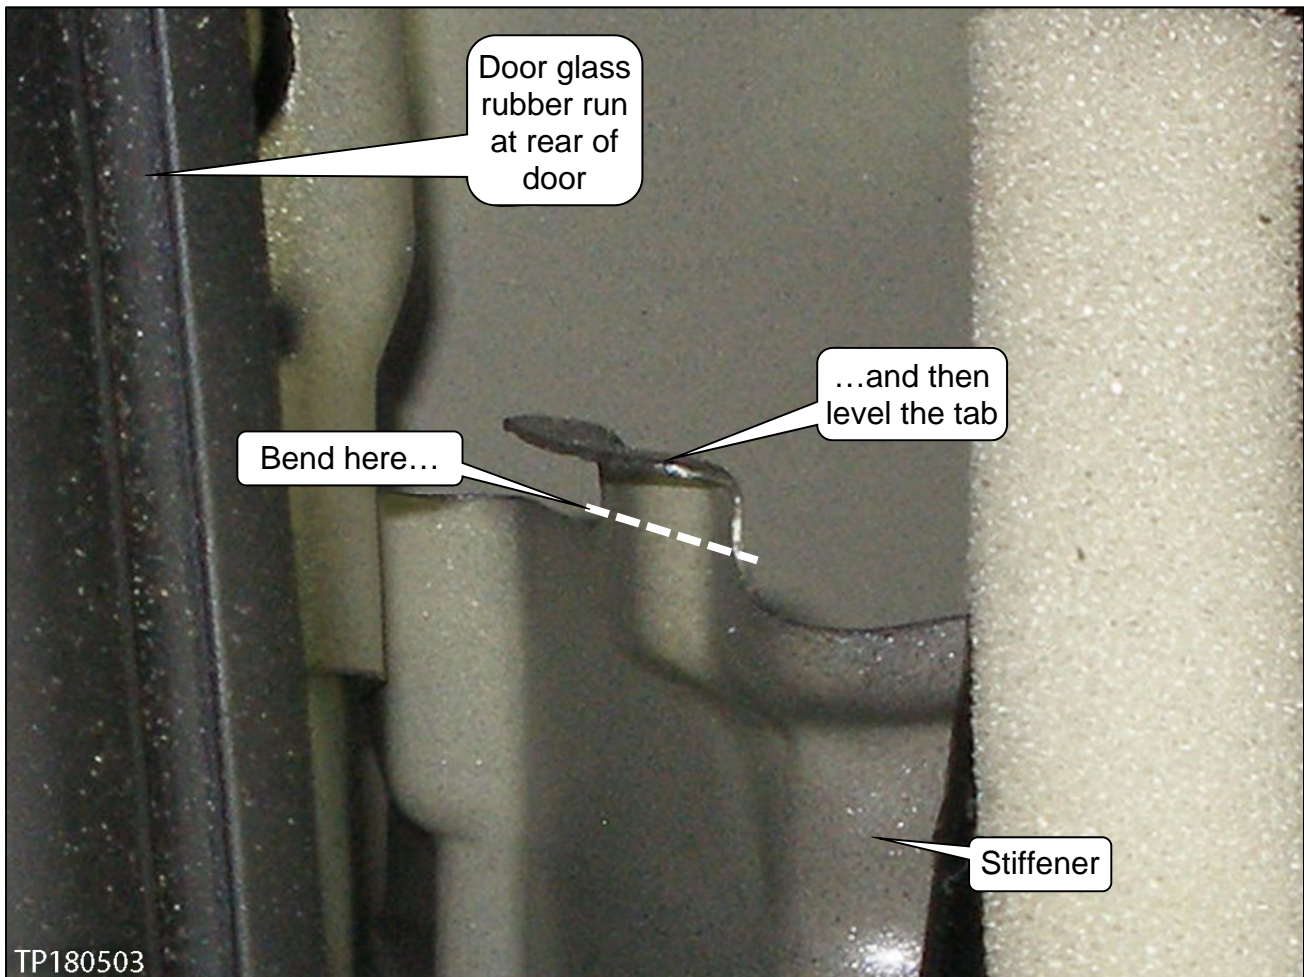

Figure 3
- Using a suitable pair of pliers, adjust the gap by bending the stiffener tab horizontally along the dashed line (see Figure 3).
- After adjusting the gap, adjust the tab as necessary to a level position (see Figure 3).